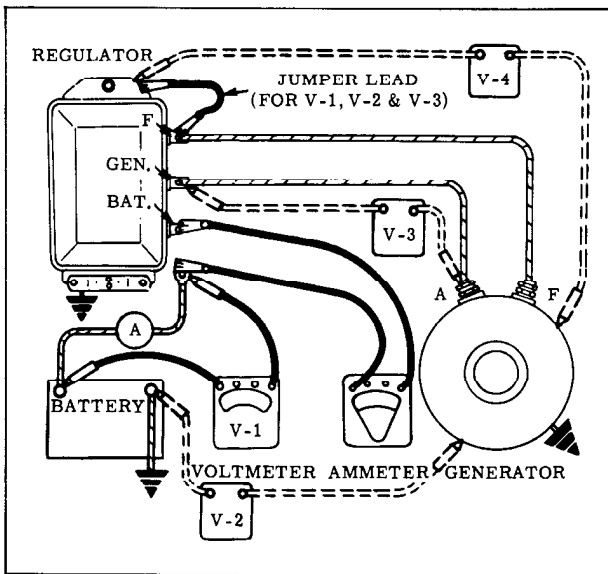

Fig. 13-10 Testing Charging Circuit Voltage Drop
2. Connect an ammeter in series between the positive battery cable and the "BAT" terminal of the regulator as shown in Fig. 13-10, (Testing Charging Circuit Voltage Drop).
4. Measure the voltage drops at V-1, V-2, and V-3 as shown in Fig. 13-10. V-1 plus V-2 should not exceed 0.5 volt. V-3 should not exceed 0.3 volts. Excessive readings indicate abnormally high resistances in the areas checked. These high resistances may be caused by loose or corroded connections.
5. Remove the ground jumper from the "F" terminal of the generator and turn on all lights and accessories. Measure the voltage drop V-4 as shown in Fig. 13-10. If this reading is more than 0.1 volt, excessive resistance is indicated in this portion of the circuit and can be due to a poor ground at the regulator or at the engine ground strap.